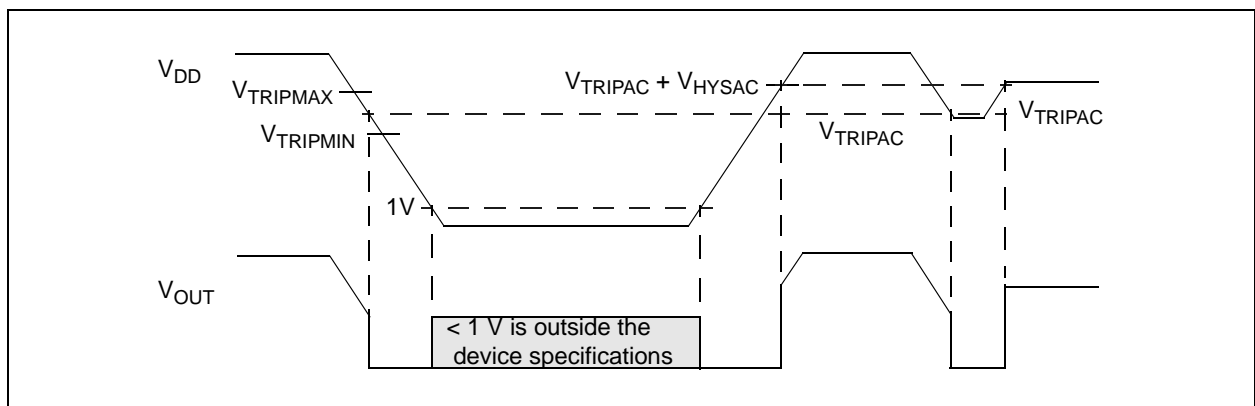

**FIGURE 4-1:** Typical Application Circuit.
**Note:** Unless otherwise indicated, all limits are specified for  $V_{DD} = 1V$  to  $5.5V$ ,  $R_{PU} = 100\text{ k}\Omega$  (only MCP111; see Figure 4-1),  $T_A = -40^\circ\text{C}$  to  $+125^\circ\text{C}$ .
**Note:** Unless otherwise indicated, all limits are specified for  $V_{DD} = 1V$  to  $5.5V$ ,  $R_{PU} = 100\text{ k}\Omega$  (**only MCP111**; see **Figure 4-1**),  $T_A = -40^\circ\text{C}$  to  $+125^\circ\text{C}$ .
For many of today's microcontroller applications, care must be taken to prevent low power conditions that can cause many different system problems. The most common causes are brown-out conditions, where the system supply drops below the operating level momentarily. The second most common cause is when a slowly decaying power supply causes the microcontroller to begin executing instructions without sufficient voltage to sustain SRAM, thus producing indeterminate results. Figure 4-1 shows a typical application circuit.
A 0.1  $\mu$ F bypass cap mounted as close as possible to the  $V_{DD}$  pin provides additional transient immunity (refer to Figure 4-1).